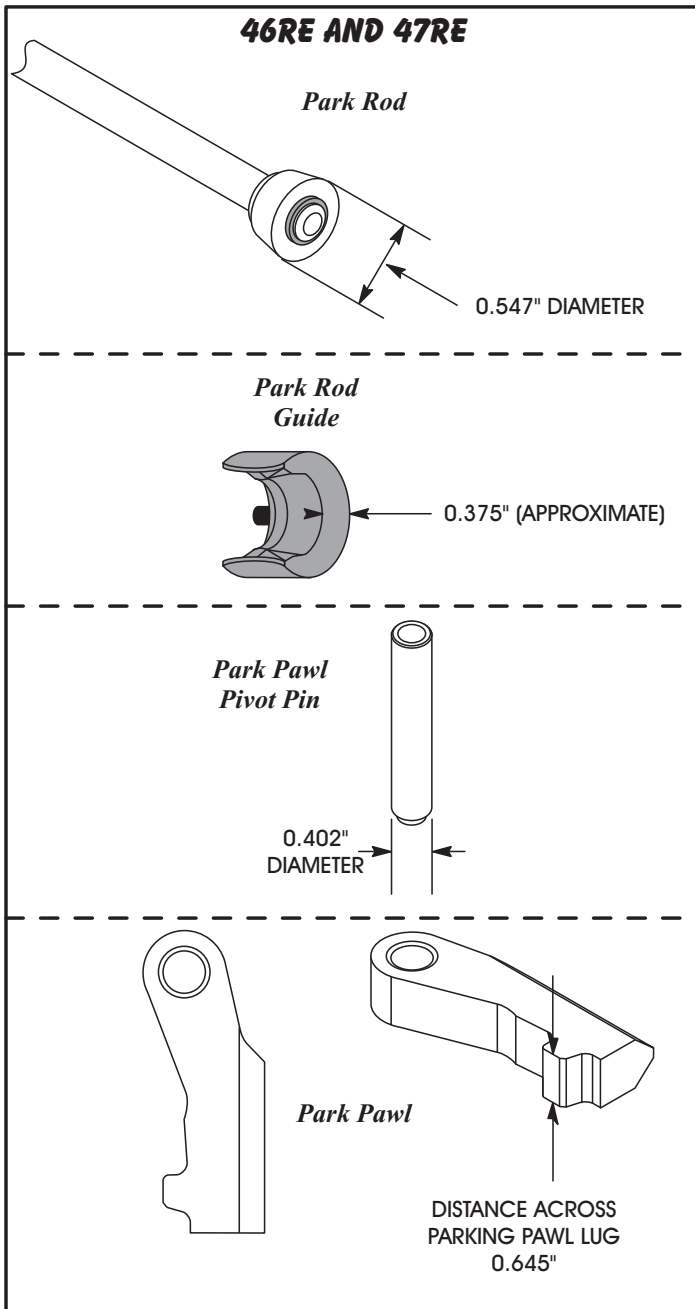

Figure 191
**Note:** Refer to Figure 191 and 192 for parking linkage dimensional changes that will also affect the overdrive housing and replacement parts that you may need.
Refer to Figure 191 for 46RE and 47RE parking linkage dimensions.